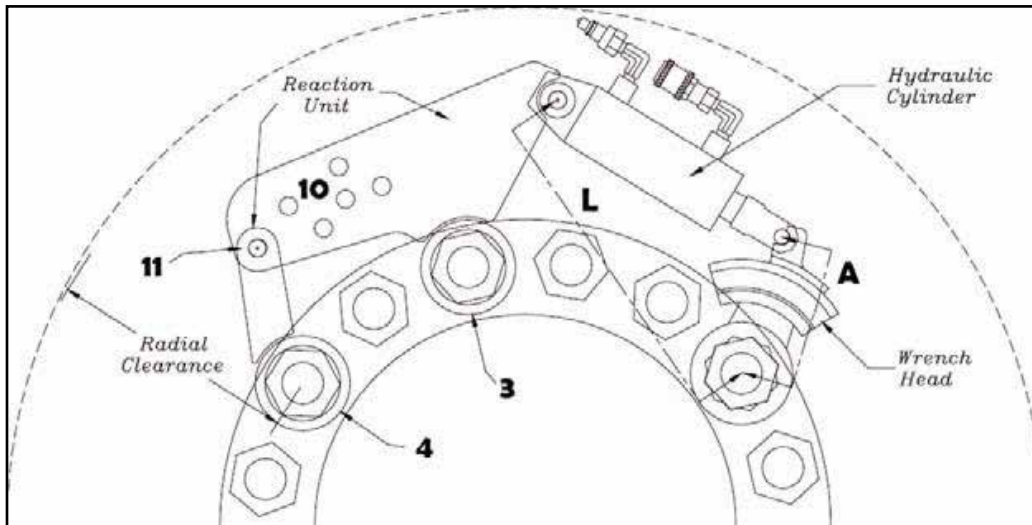

Figure 7
6. When the wrench and reaction unit are properly placed on the flange, the distance (L) from the center of the pin in the back clevis of the cylinder to the center of the bolt being turned should always be 9-1/16" on a Series 150-4.
7. Place the wrench head (1) on any bolt on the flange.
8. Place the ring of the reaction plate (3) around the bolt which would satisfy the following criteria:
- a. The distance (L) should be correct.
- b. The wrench head (1) should be able to rotate 60° without interfering with an adjacent bolt.
9. Place the ring on the reaction plate (3) around the bolt which would result in the proper set-up.
10. Place the ring of the reaction leg (4) around the bolt which would allow the hole (11) on the leg to align with any hole (10) on the plate. Insert the bolt (5) through the two holes and tighten the nut (6). See Figure 7.